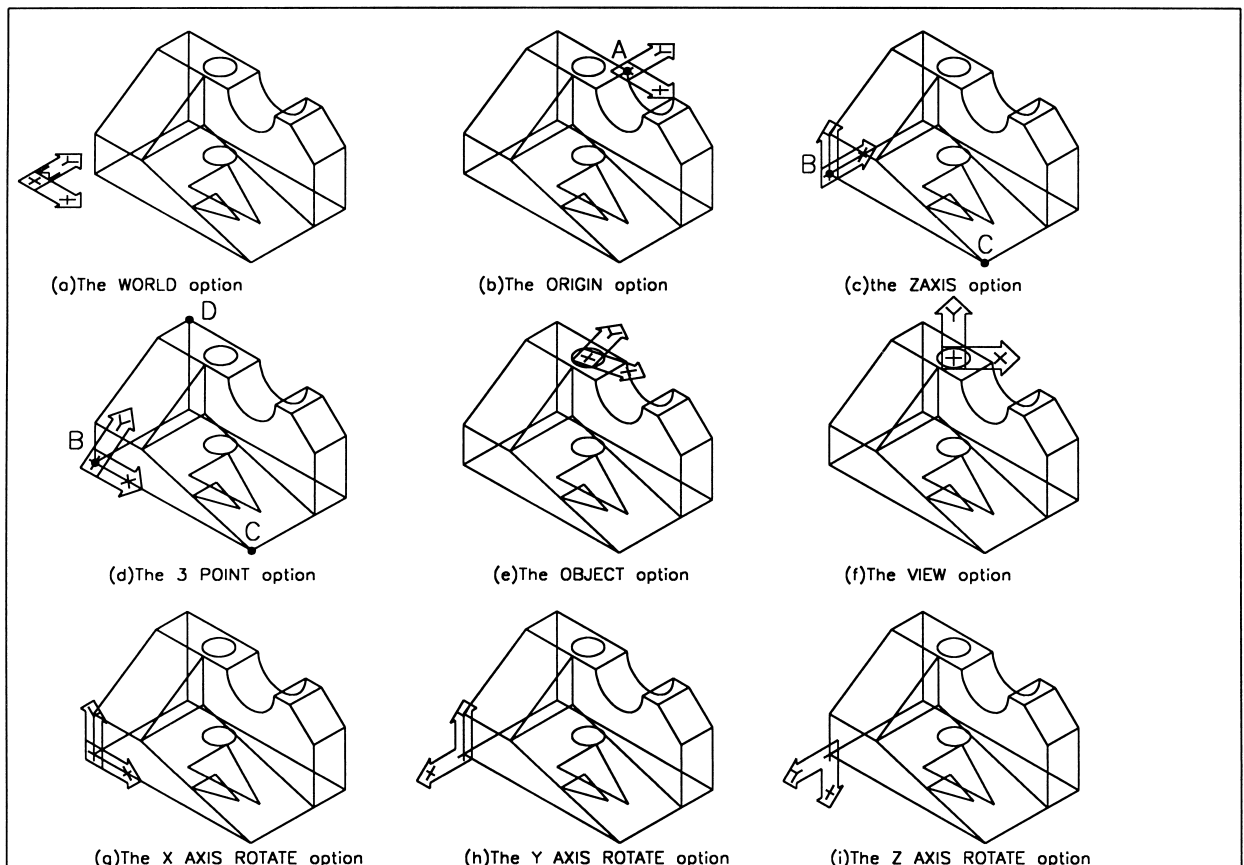

Figure 5.1 The UCS (NEW) options exercise.
- 3 Layer MODEL current and freeze layer TEXT. Refer to Fig. 5.1 which does not display the black sheet border. This is for clarity only.
A selection which allows the user to move the UCS to a new origin position, the UCS icon retaining both its orientation and name. Refer to Fig. 5.1 and: